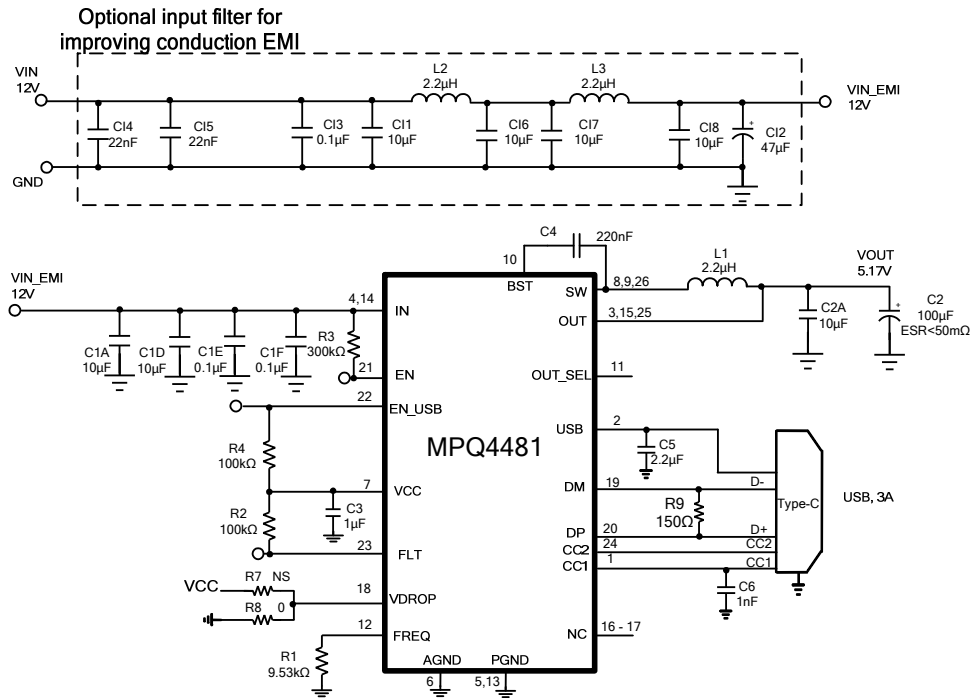

Figure 13: USB Type-C 5V/3A DFP Port (10)
- 9) The recommended layout is based on the Typical Application Circuits in Figure 13 and Figure 14.